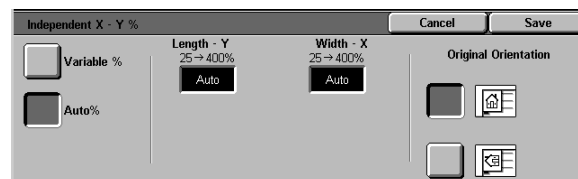

Figure 21: Auto% Reduce/Enlarge screen
- 3 Touch the **Auto%** option, as in Figure 21.